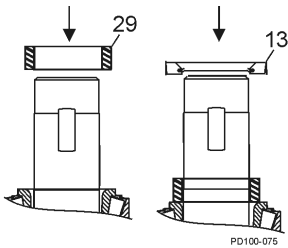

Figure 288 - Install Rear Seal
1. Install the gear spacers (Figure 288, item 29).
3. Install the oil seals with the spring facing out (Figure 288, item 13).